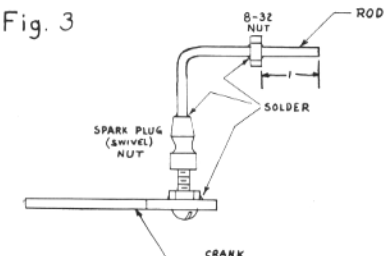

Fig. 5
15. Prepare one end of the spark plug nut (or a piece of threaded tubing) to receive a piece of brazing rod and insert the rod about  $\frac{1}{8}$  inch. Solder in place. Make a right angle bend in the rod about  $\frac{3}{8}$  inch above the nut. Use a minimum radius but do not break the rod while bending. The end of the rod should extend horizontally about  $1\text{-}\frac{3}{8}$  inches beyond the vertical nut axis, to pass next to the tip of the carriage-return lever when the spark plug nut is threaded on the screw in hole G. The nut should not be drawn on tightly. It must pivot. Refer to Fig. 5.